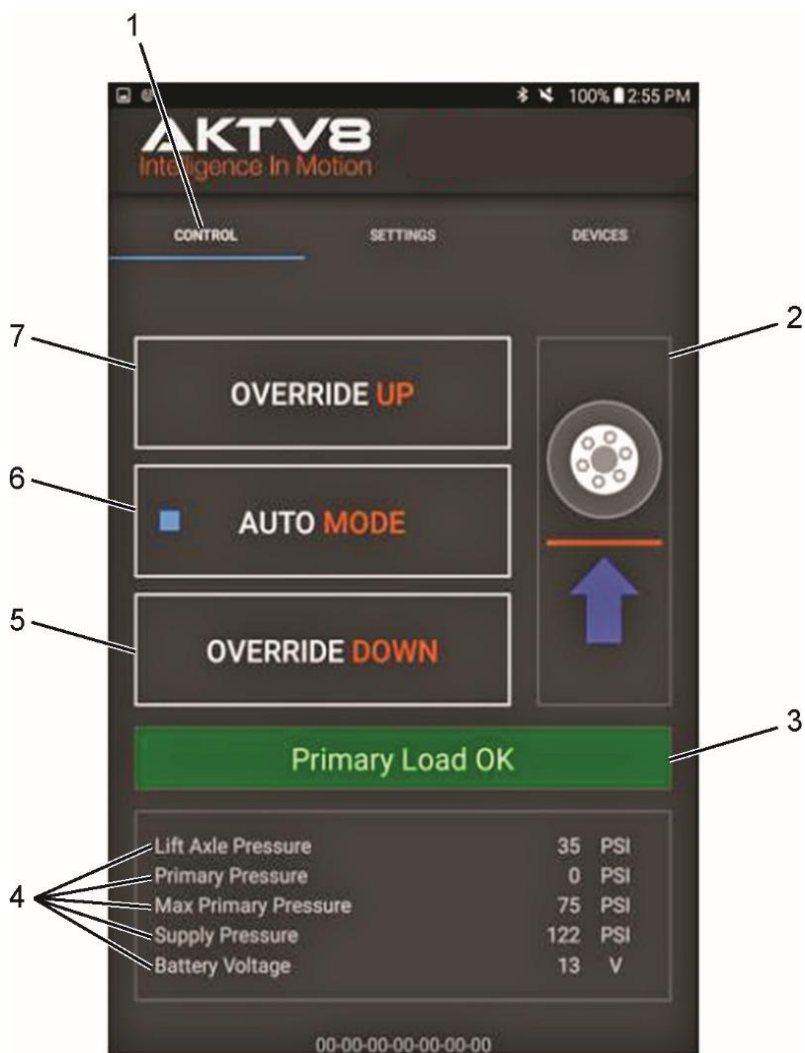

Figure 15
3. Touch or swipe to CONTROL tab (Figure 15, Item 1).
**NOTE:** The status of the lift axle is displayed using the image on the right side of the CONTROL screen (Figure 15, Item 2).
4. Touch to OVERRIDE UP (Figure 15, Item 7) to raise axle.
5. Touch AUTO MODE (Figure 15, Item 6) to enable automatic control functions.
6. Touch OVERRIDE DOWN (Figure 15, Item 5) to deploy axle.
11. Turn OEM dash switch to the “Up” position to take system out of forced down. Place OEM dash switch back to “Down” position (Figure 15, Item 6) to enable automatic control functions.
15. The zone display (Figure 15, Item 3) displays the status of the vehicle’s axle status as follows:
16. The following data (Figure 15, Item 4) can be monitored from the CONTROL screen.